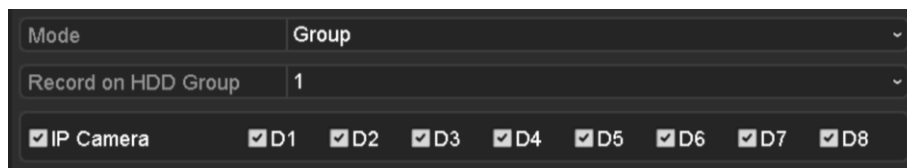

Figure 13-13 Storage Mode Interface
Step 2 Set the **Mode** to Group, as shown in Figure 13-13.